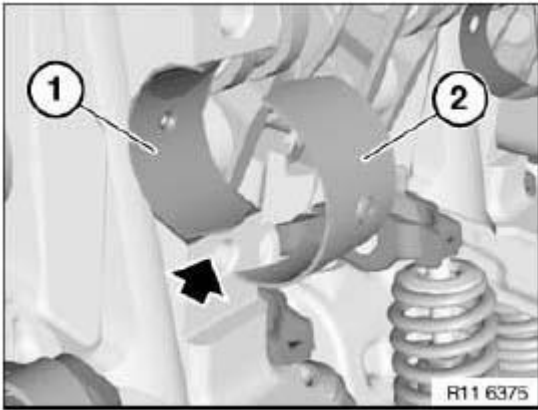

Fig. 235: Identifying Bearing Shell Installation Orientation
Install bearing shell (1) with tip facing down (see arrow in **Fig. 235**) in cylinder head.